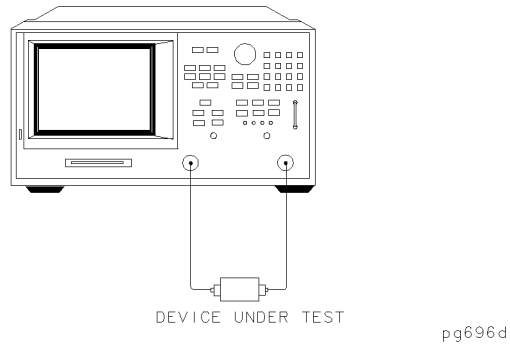

Figure 4-9. Device Connections for Measuring Electrical Length
- 1 Connect your test device as shown in **Figure 4-9**.